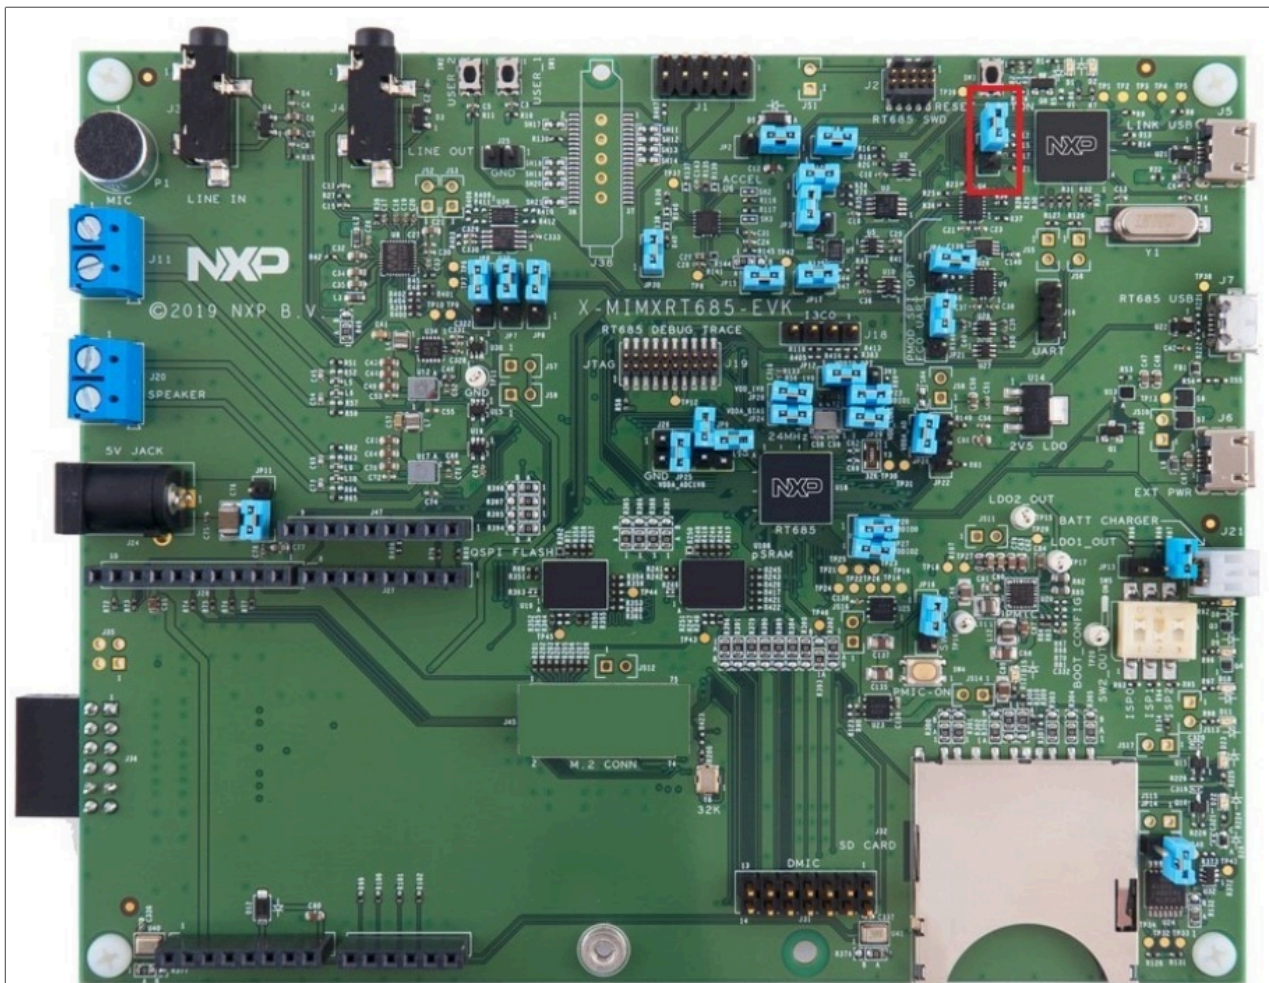

Figure 10. Connect JP1
3. To update the LPC-Link2 debug circuit firmware, unplug the USB cable on J5 and then connect to the DFULink jumper. In the MIMXRT685-EVK, JP1 is the LPCXpresso DFU jumper as shown in Figure 10.